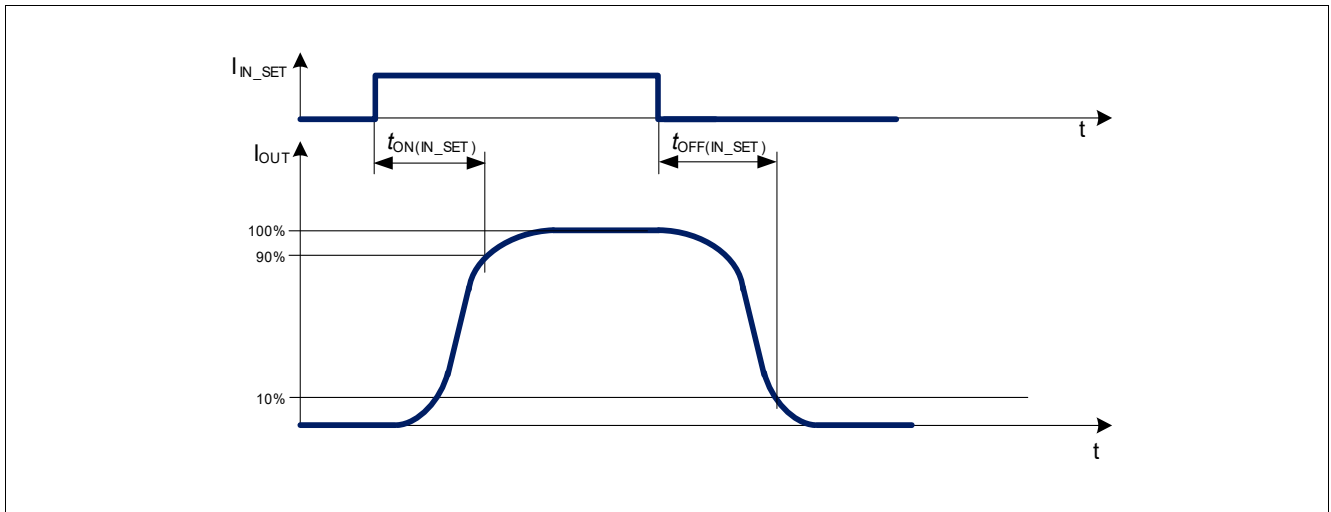
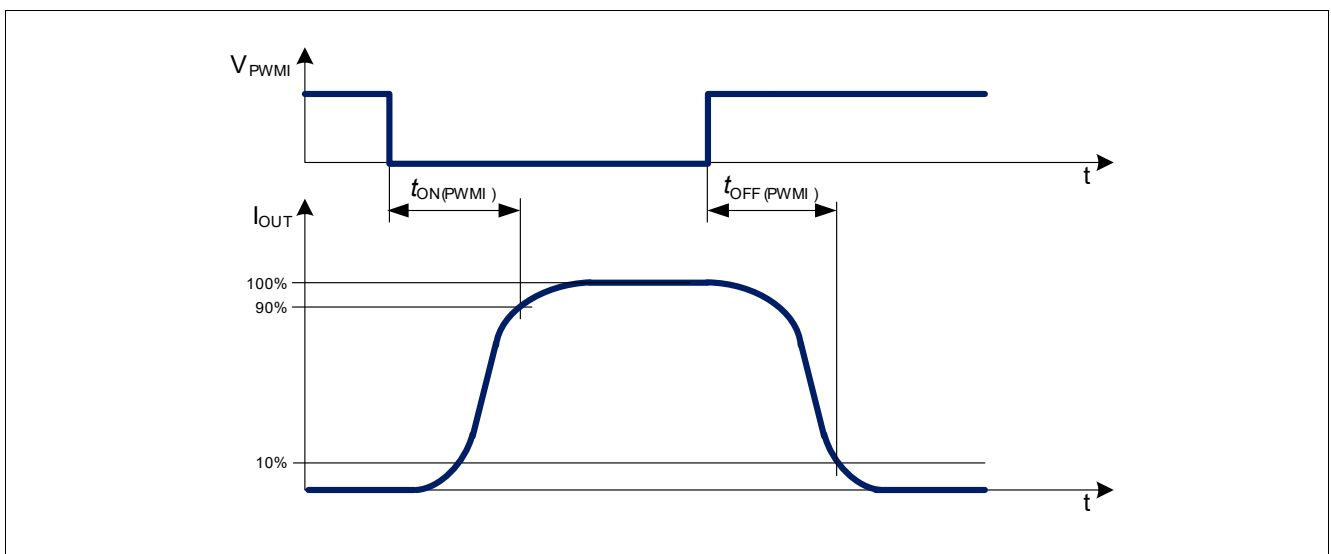

Figure 14 IN_SET turn on and turn off delay timing diagram
Figure 16 PWMI turn on and turn off timing diagram
In the following diagram (Figure 14, Figure 16) the influences of inputs on output activation delays are shown.
2) Refer to Figure 14
4) Refer to Figure 16